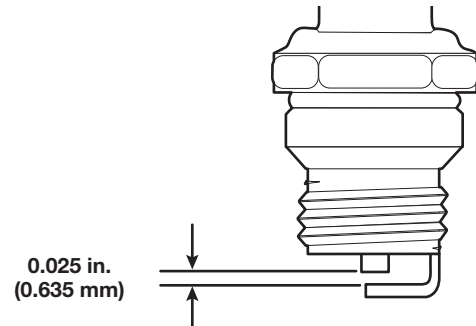

Fig. 12
4. Use a feeler gauge to set the air gap at **0.025 in. (0.635 mm)** (Fig. 12).